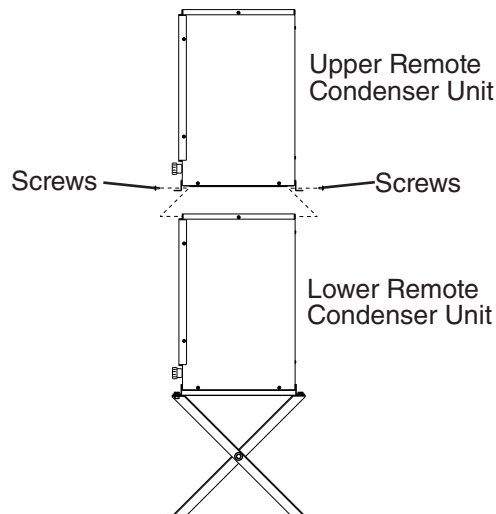

Fig. 13
- 2) Place the upper remote condenser unit on top of the lower remote condenser unit. See Fig. 13.